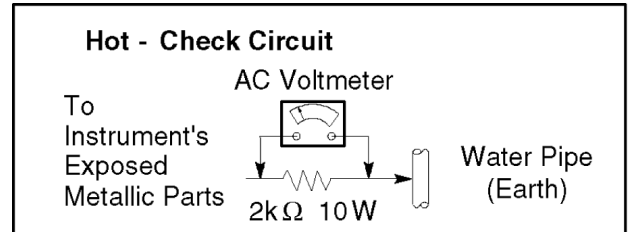

Fig. 3
4. Check each exposed metallic part, and measure the voltage at each point. Fig. 3.
1. Receive a 3.58 MHz NTSC rainbow pattern	1. Adjust Sub NTSC Tint so that the peak of level of waveform is similar to Fig. 3